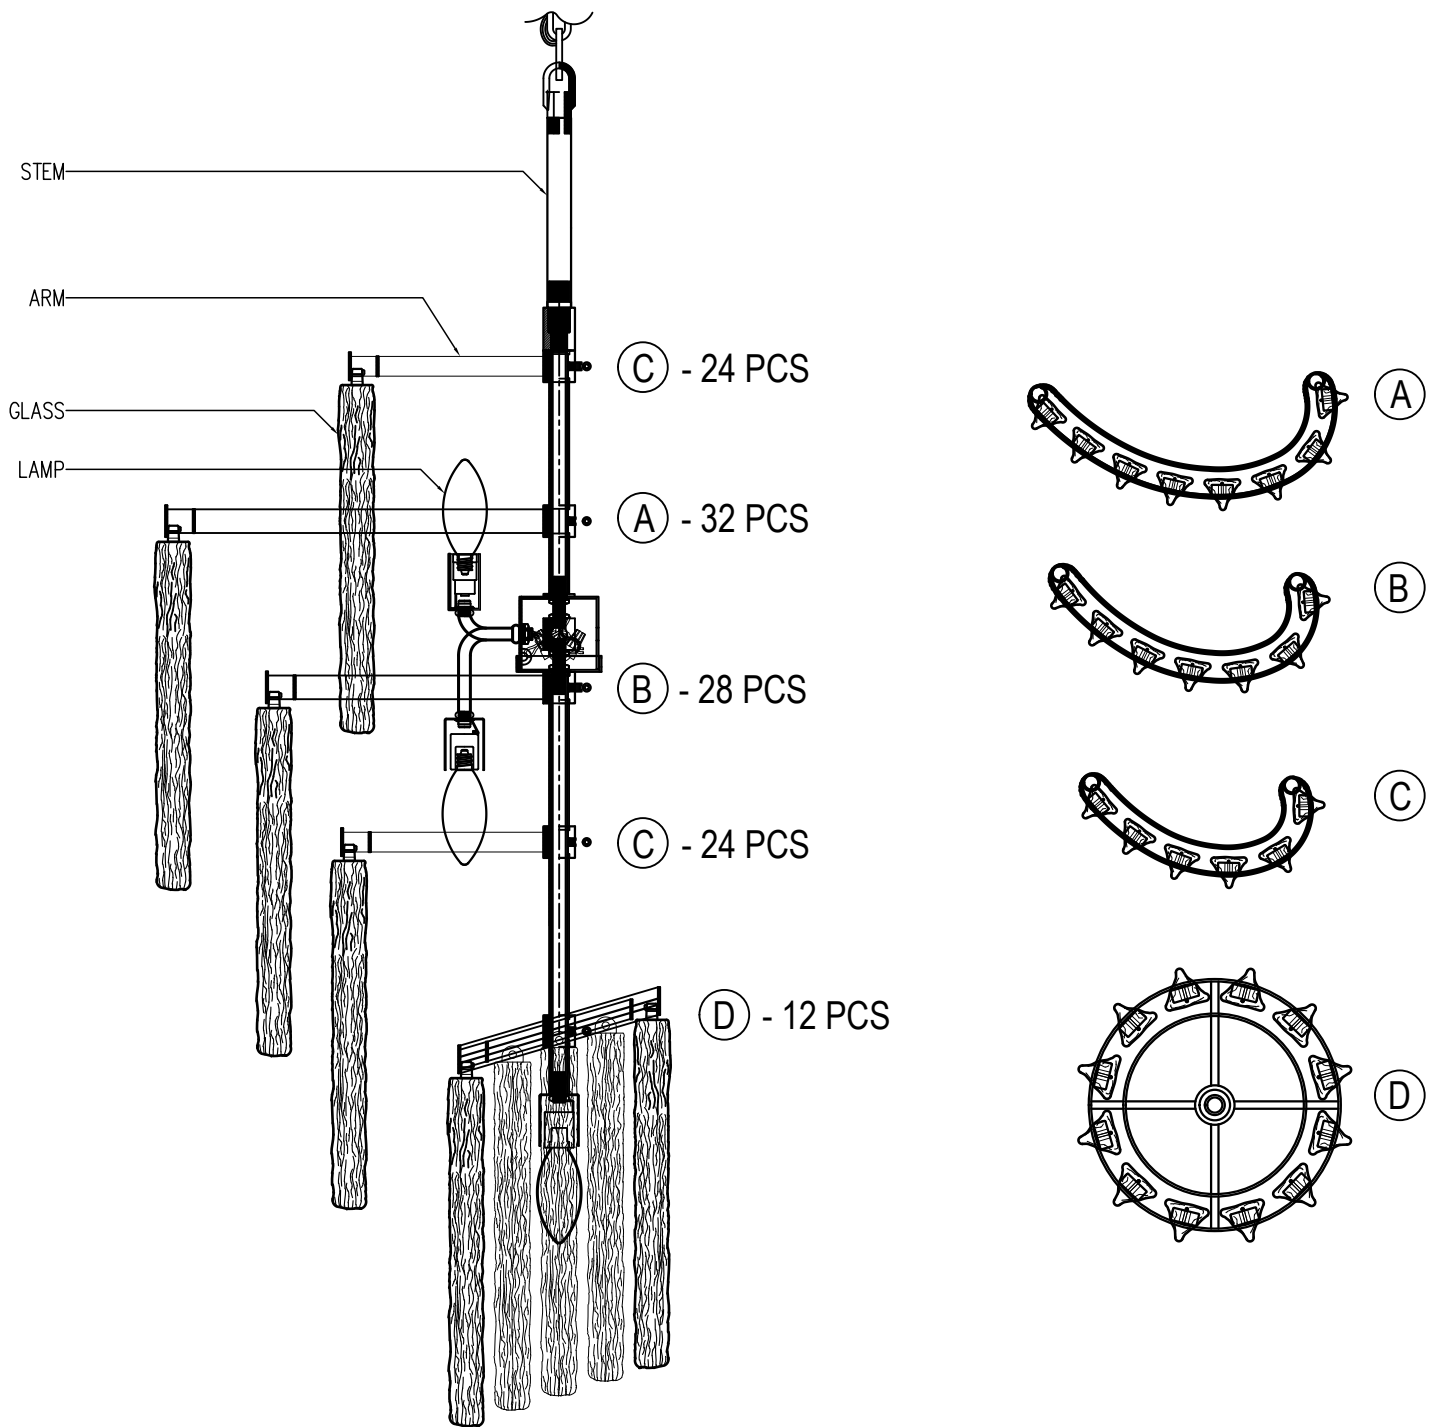

FIGURE-2
10. Place the glass on the place. Follow glass schedule. (See Figure-2)